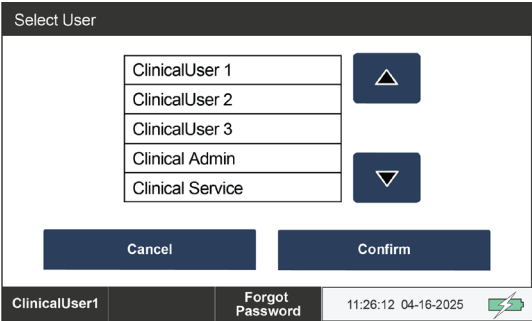

Figure 31 Select User Screen
1. Press the button in the lower left corner with the user name (see Figure 31)
2. Select the admin user from the list (see Figure 31)
3. Press the Forgot Password button (see Figure 31)